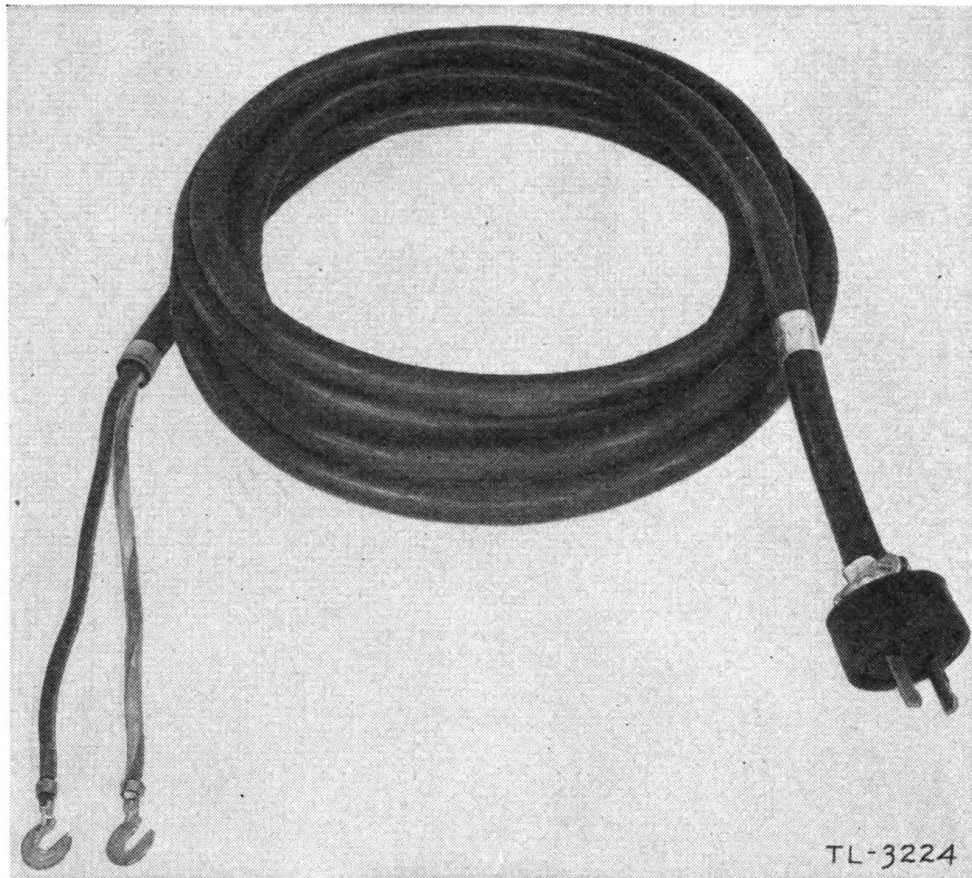

FIGURE 15.—Cord CD-107.
c. The third part is the cord CD-107 (fig.15), which is used to connect the power unit to the panel (par. 3c).
twisted together with an outer covering of waterproof cotton braid. Latest procurements of cord CD-107 have rubber covering over the two twisted leads (fig. 15). Each conductor consists of 104 strands of No. 30 B. & S. gage annealed copper wire insulated with new code rubber and covered with a close cotton braid. One end of the cord is equipped with two hook-type terminals marked + and -, respec-